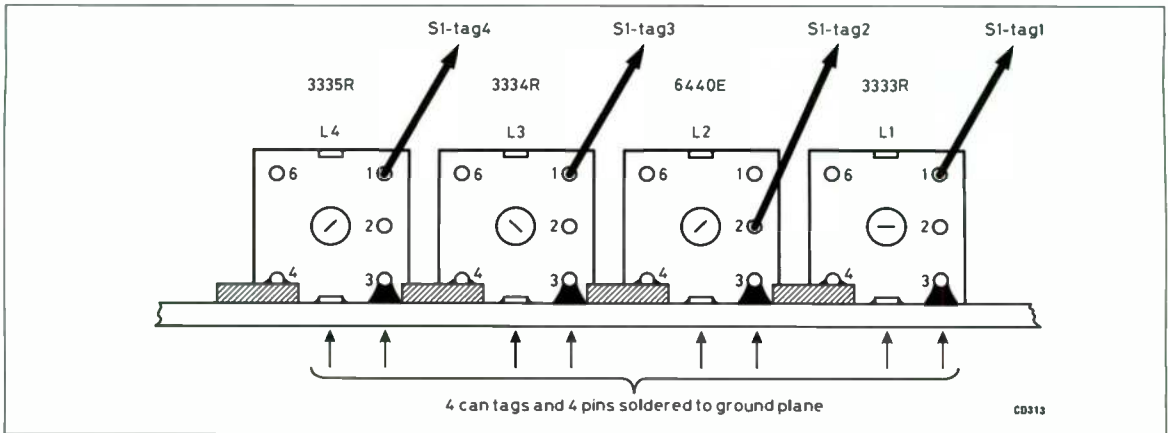

Fig 3.9. Details of the coil pins as viewed from the arrow in Fig 3.10
7. Fit the coils L1 to L4 as required. Each coil should be installed in the correct place, so that if range 2 is to be omitted the position for L2 will be left blank. This makes it very easy to add the other ranges later. Place the coil in position so that the tag on the can is against the board and the side having only two pins is on the left-hand side (with the board positioned with the coils at the top). Refer to Fig 3.9. The left-hand pin should rest on the 'island', with the can tag and right-hand pin clear of the next 'island' to the right. Very gently bend the right-hand pin so that it just touches the board. Solder the can tag and the right-hand pin to the motherboard and the left-hand pin to its 'island'. Refer to Fig 3.9. Repeat the process for each of the coils to be fitted, taking care to ensure that there is room for any coil not fitted to be put in later.
13. Again using tinned copper wire, link the switch contacts as follows. Tag 4 to L4 top right pin. Tag 3 to L3 top right pin. Tag 2 to L2 middle right pin and tag 1 to L1 top right-hand pin. The coil pin connections are shown in Fig 3.9.
- that to C5 in step 24 are made using insulated wire. Link the four tags 7, 8, 9 and 10 on S1 to pin 6 (top left) of the coils L4, L3, L2 and L1 as shown. Refer to Fig 3.9 if necessary.